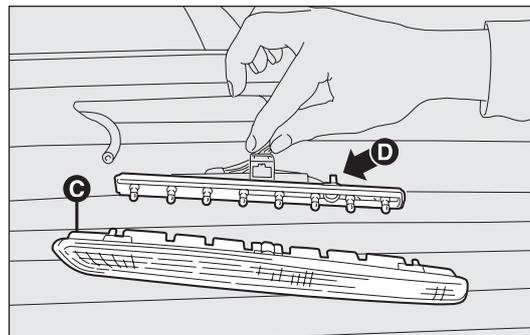

fig. 172
### THIRD BRAKE LIGHT fig. 172
- press in the catches and remove the lens unit C-fig. 172;
- press in the tabs D-fig. 172 and remove the bulb holder;